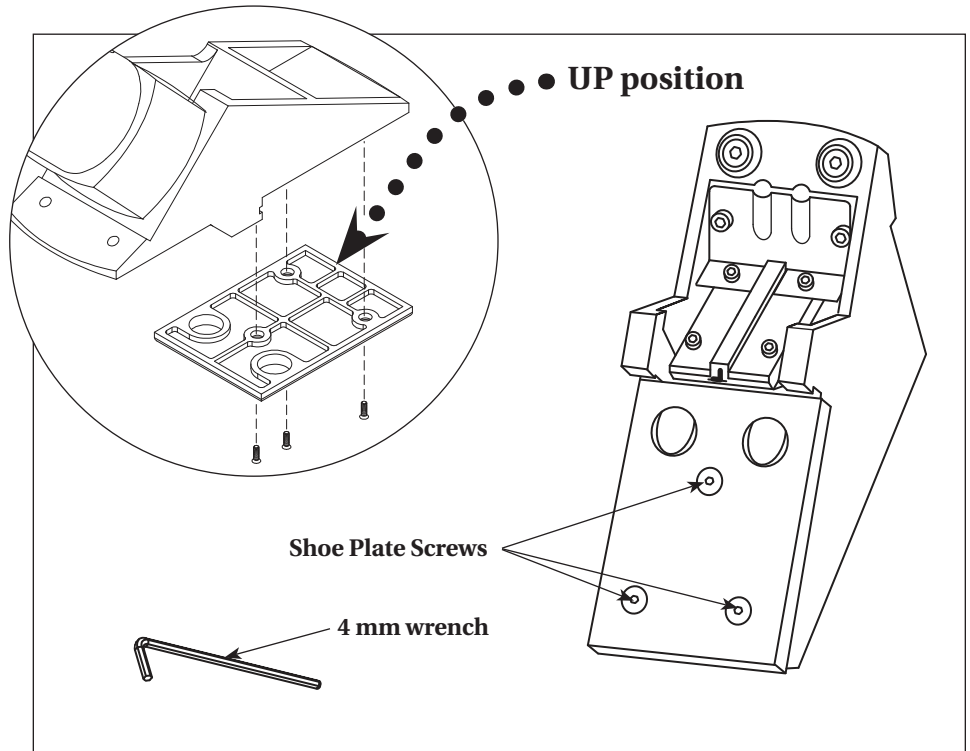

Figure 11 - UP position of shoe plate
2. Using provided 4 mm wrench, remove the three shoe screws (see Figure 11).